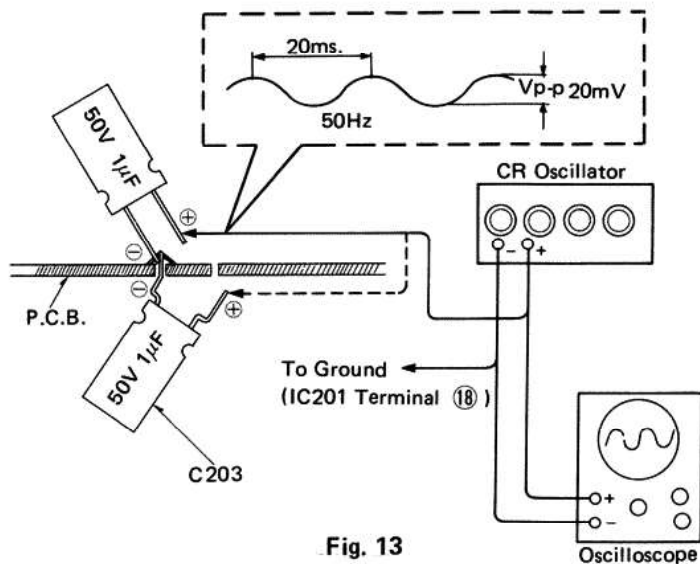

Fig. 13
Or, connect the oscillator to the positive ⊕ side of C203. (See Fig. 13)
2. Checking the output of the oscillator on the oscilloscope, adjust so that the waveform becomes as shown in Fig. 13